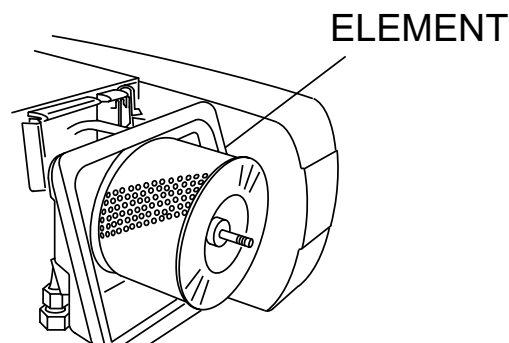

Figure 9. Air Cleaner Element
- Remove the air cleaner element (Figure 9) and inspect it for signs of wear or dirt. If air cleaner element is dirty, clean or replace element.